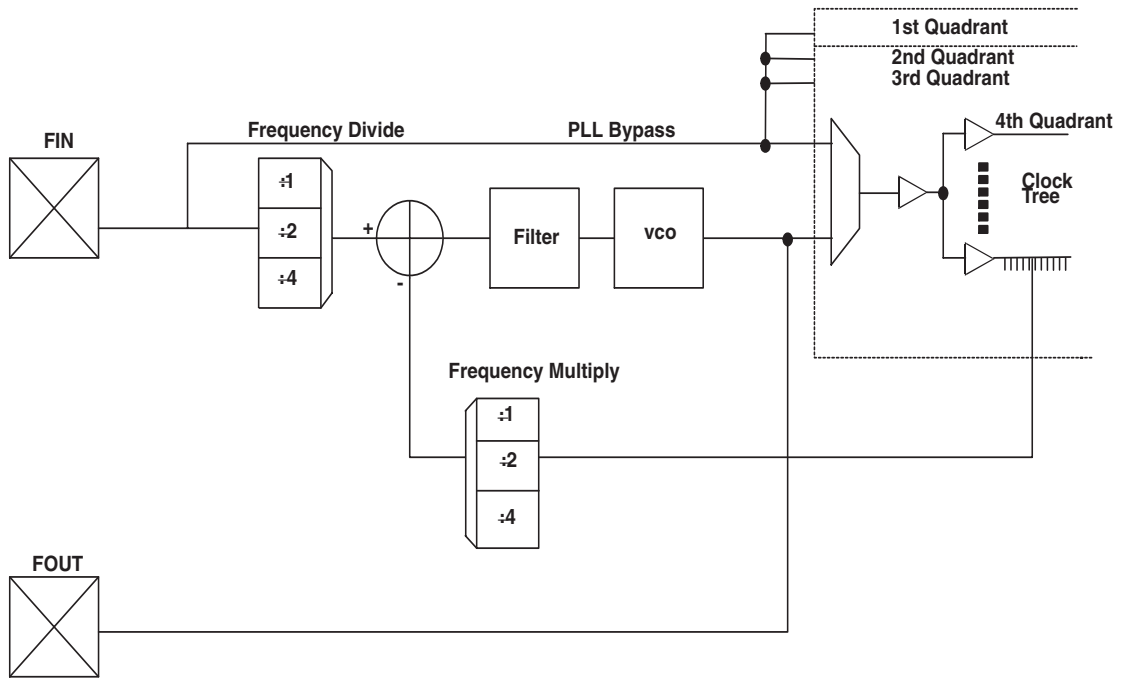

Figure 17: PLL Block
Figure 17 illustrates a typical QuickLogic ESP PLL.
Within the PLL, a voltage-controlled oscillator (VCO) is added to the circuit. The external F_{in} signal and the local VCO form a control loop. The VCO is multiplied or divided down to the reference frequency, so that a phase detector (the crossed circle in **Figure 17**) can compare the two signals. If the phases of the external and local signals are not within the tolerance required, the phase detector sends a signal through the charge pump and loop filter (**Figure 17**). The charge pump generates an error voltage to bring the VCO back into alignment and the loop filter removes any high frequency noise before the error voltage enters the VCO. This new VCO signal enters the clock tree to drive the chip's circuitry.
Most QuickLogic products contain four PLLs, one to be used in each quadrant. The PLL presented in **Figure 17** controls the clock tree in the fourth Quadrant of its ESP. As previously mentioned, QuickLogic PLLs compensate for the additional delay created by the clock tree itself by subtracting the clock tree delay through the feedback path.
a. The data provided in **Table 17** are JEDEC and PCI Specifications. QuickLogic devices either meet or exceed these requirements. For data specific to QuickLogic I/Os, see **Table 1** through **Table 13** and **Figure 1** through **Figure 17**